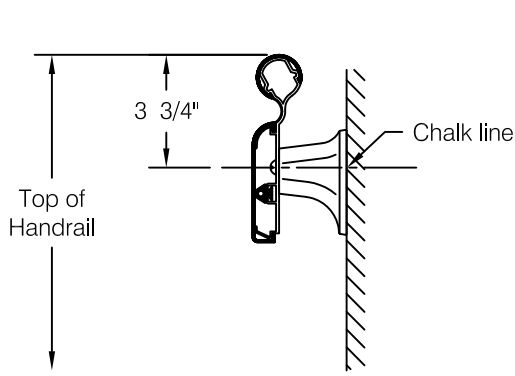

fig 1
**Step 1** Determine top of handrail height and snap a chalk line 3-3/4 inches below for centerline of mounting hardware, see **fig. 1**.